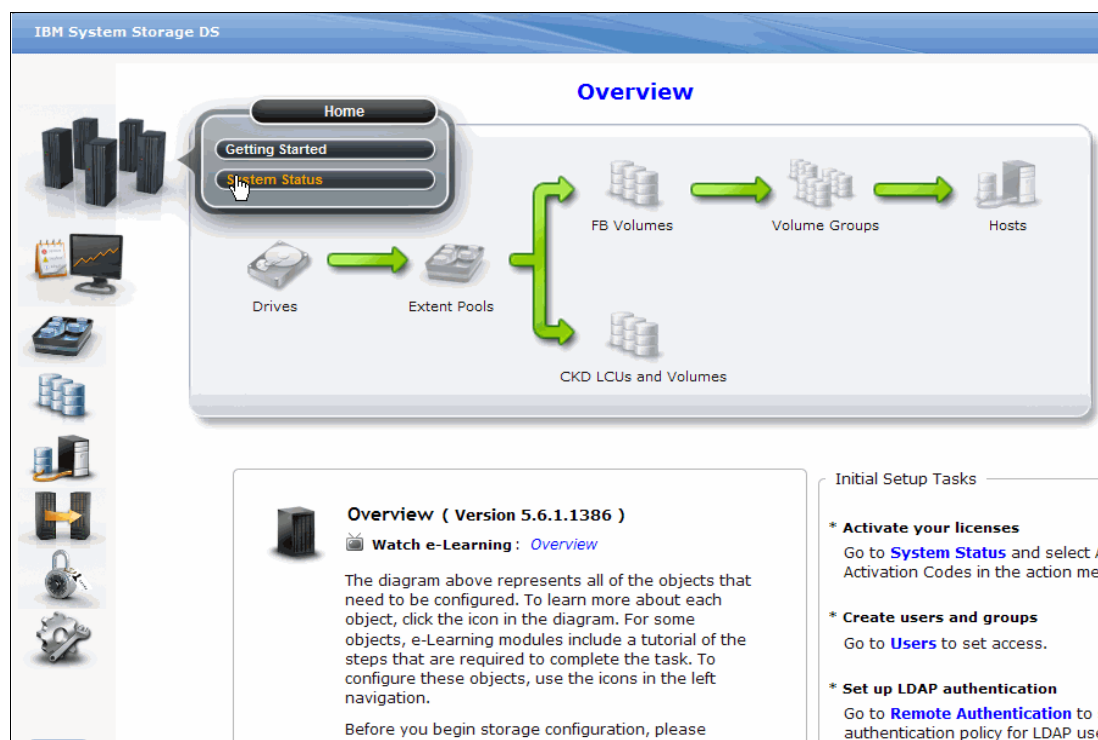

Figure 10-1 DS8000 Storage Manager GUI: Overview window
1. Start the DS Storage Manager application. Log in using a user ID with administrator access. If this is the first time you are accessing the machine, contact your IBM service representative for the user ID and password. After a successful login, the DS8000 Storage Manager Overview window opens. Move your cursor to the left top icon that will cause a fish-eye effect and a window pop-up. Select **System Status** (Figure 10-1).